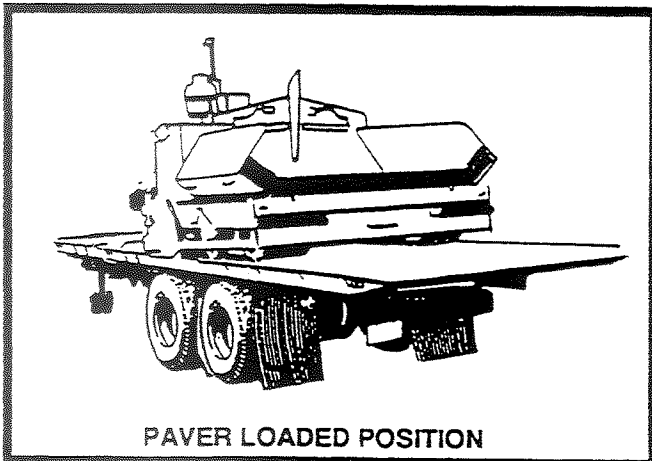

FIGURE 17
1. Position paver on trailer centered from side to side. See figure 17.